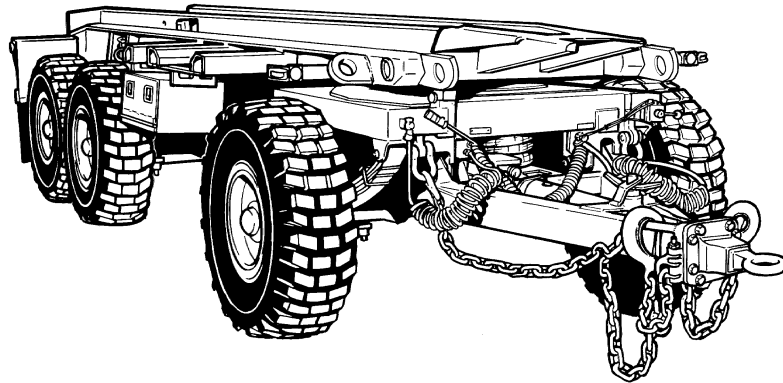

Figure 1-1. Palletized Load System Trailer, M1076, Right Front View
- b. Model Number and Equipment Name.** Palletized Load System Trailer (PLST), M1076, NSN 2330-01-303-5197, (Figures 1-1 and 1-2).